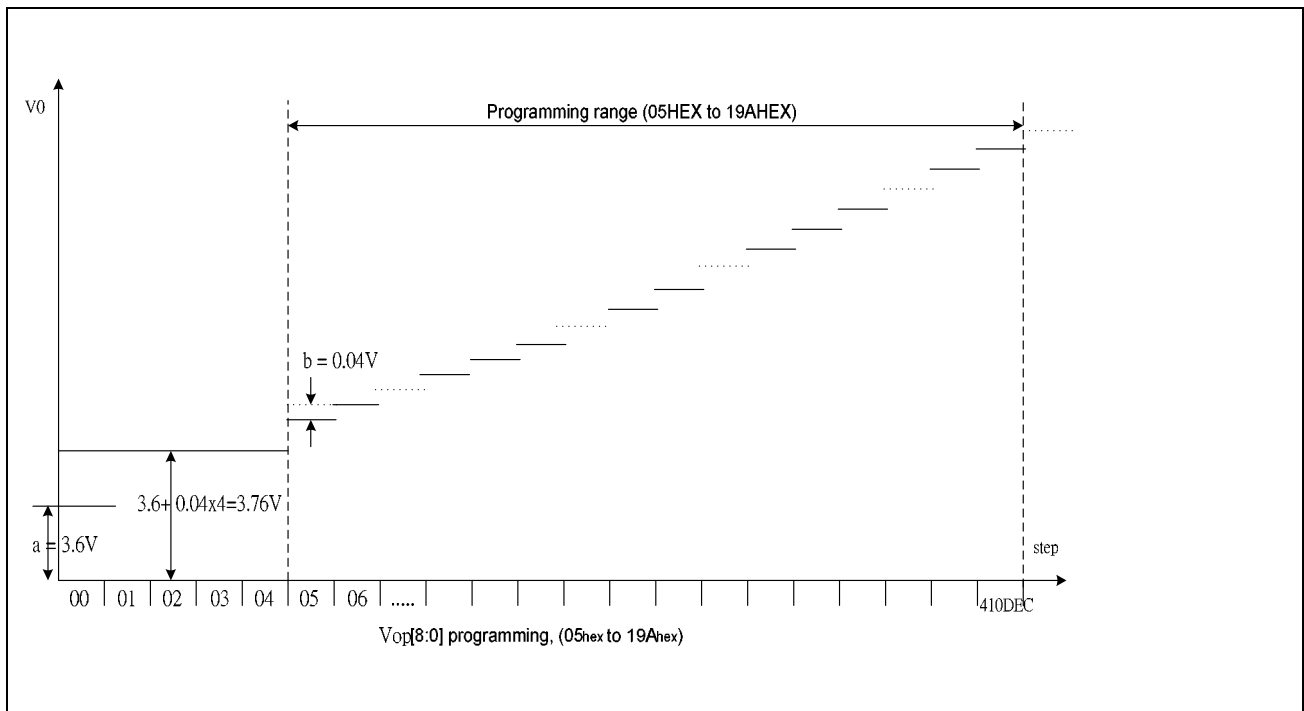

Figure 7.10.2 VOP programming range
The Vop[8:0] value must be in the VOP programming range as given in Figure 7.10.2. Evaluating equation (1), values outside the programming range indicated in Figure 7.10.2 may result. Calculated values below 4 will be mapped to Vop[8:0] = 4, resulting Vop[8:0] values higher than 410 will be mapped to Vop[8:0] = 410. (Sitronix suggests that the Vop range is equal 4.5V to 18V.